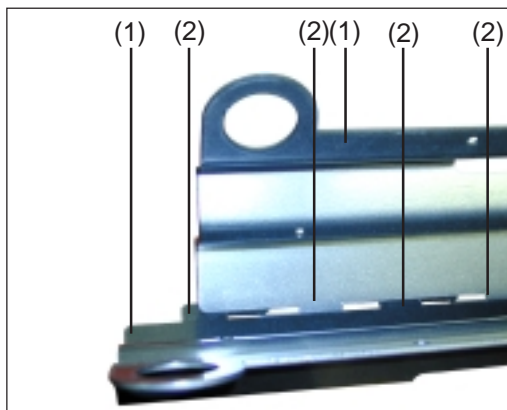
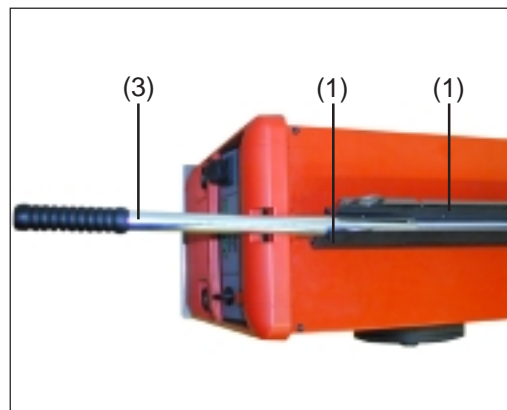

Fig.20 Slot the handle plates into place
Fig.21 Handle plates and handle tube
1. On the handle (4) of the power source, use the catches (2) to slot the handle plates (1) into one another (Fig.20 and Fig.21)
2. Insert the cotter pin (8) of the handle tube (3) into the guides (6) of both handle plates
**NOTE!** When fixing the two handle plates (1) at the top, insert two Extrude-Tite screws (5) from one side and two Extrude-Tite screws (7) from the other side, so that in each case the heads of the screws are on the side with the larger borehole.
3. Fix the handle plates (1) to one another at the top using four Extrude-Tite screws (5) and (7)
**NOTE!** When fixing the two handle plates (1) in the middle, insert two Extrude-Tite screws (9) from one side and two Extrude-Tite screws (10) from the other side, so that in each case the heads of the screws are on the side with the larger borehole.
4. Fix the handle plates (1) to one another in the middle using four Extrude-Tite screws (9) and (10)